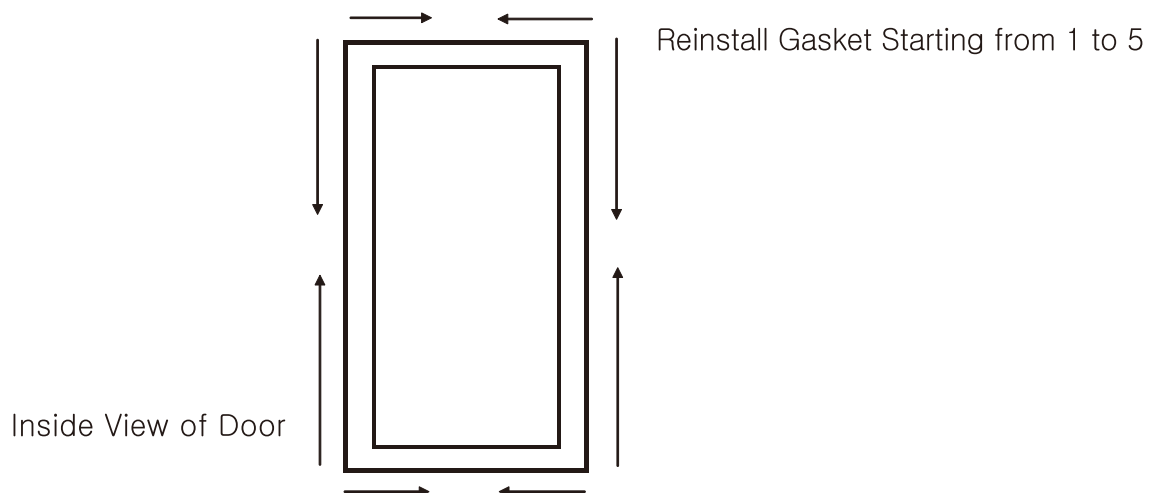

Fig 9-32
4. To install the replacement door gasket, start snapping it into the groove at the top of the door. Begin at the two corners and move evenly from each side towards the middle as shown below. (Fig 9-32)
5. Work the gasket evenly down both sides and then across the bottom. (Fig 9-32)